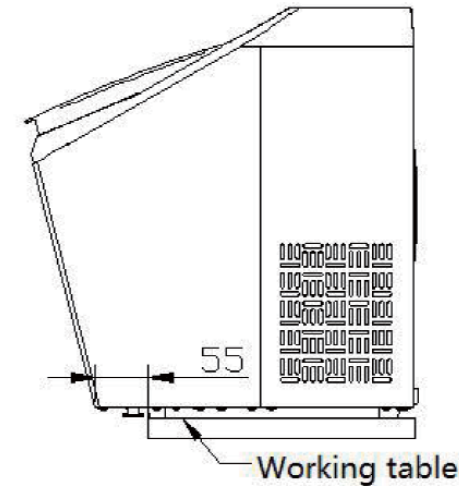

Fig.3
3. Move the appliance forward to a place 60mm away from the working table and open the drain plug to drain out excess water (see Fig.1, Fig.2 and Fig.3).